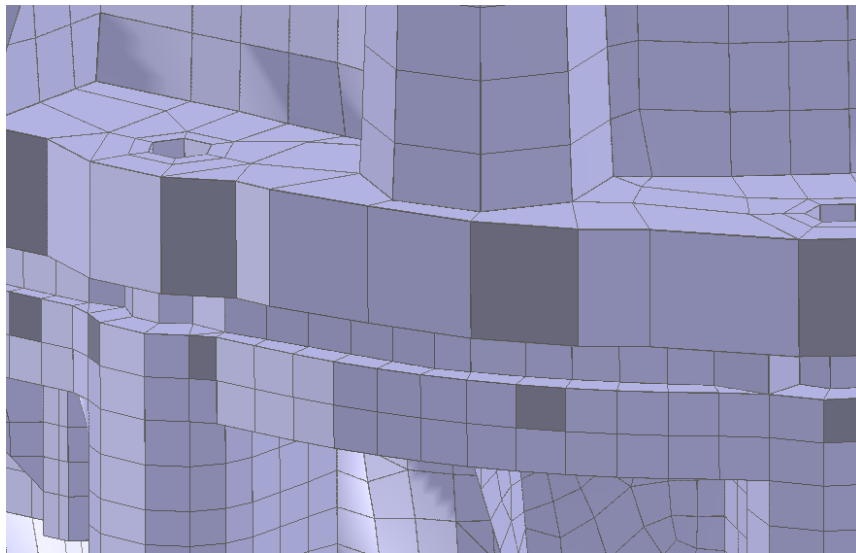

Figure 5.42 Select Elements.
- Select elements that coincide with the seam edges. To select an element in the GUI: Left-click on the element with the *shift-key* held down. (Refer to Figure 5.42)